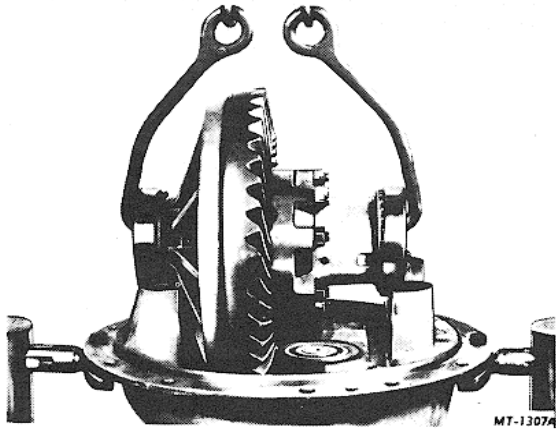

Fig. 16. Lifting Differential From Carrier
4. Lift differential assembly from diff carrier (Fig. 16). Tilt differential assembly to allow ring gear to pass pinion radial bearing. Place differential assembly on bench.